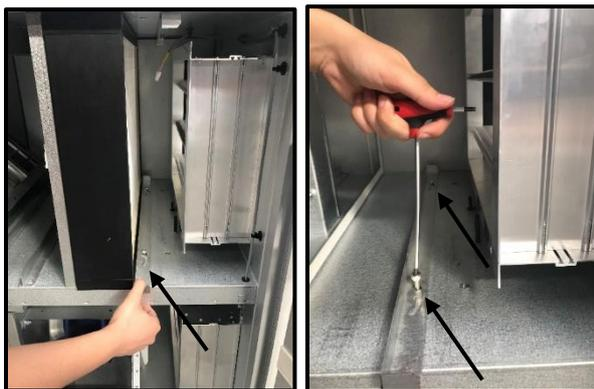

Fig. 79
1. Remove the filter lock. (Fig. 79)